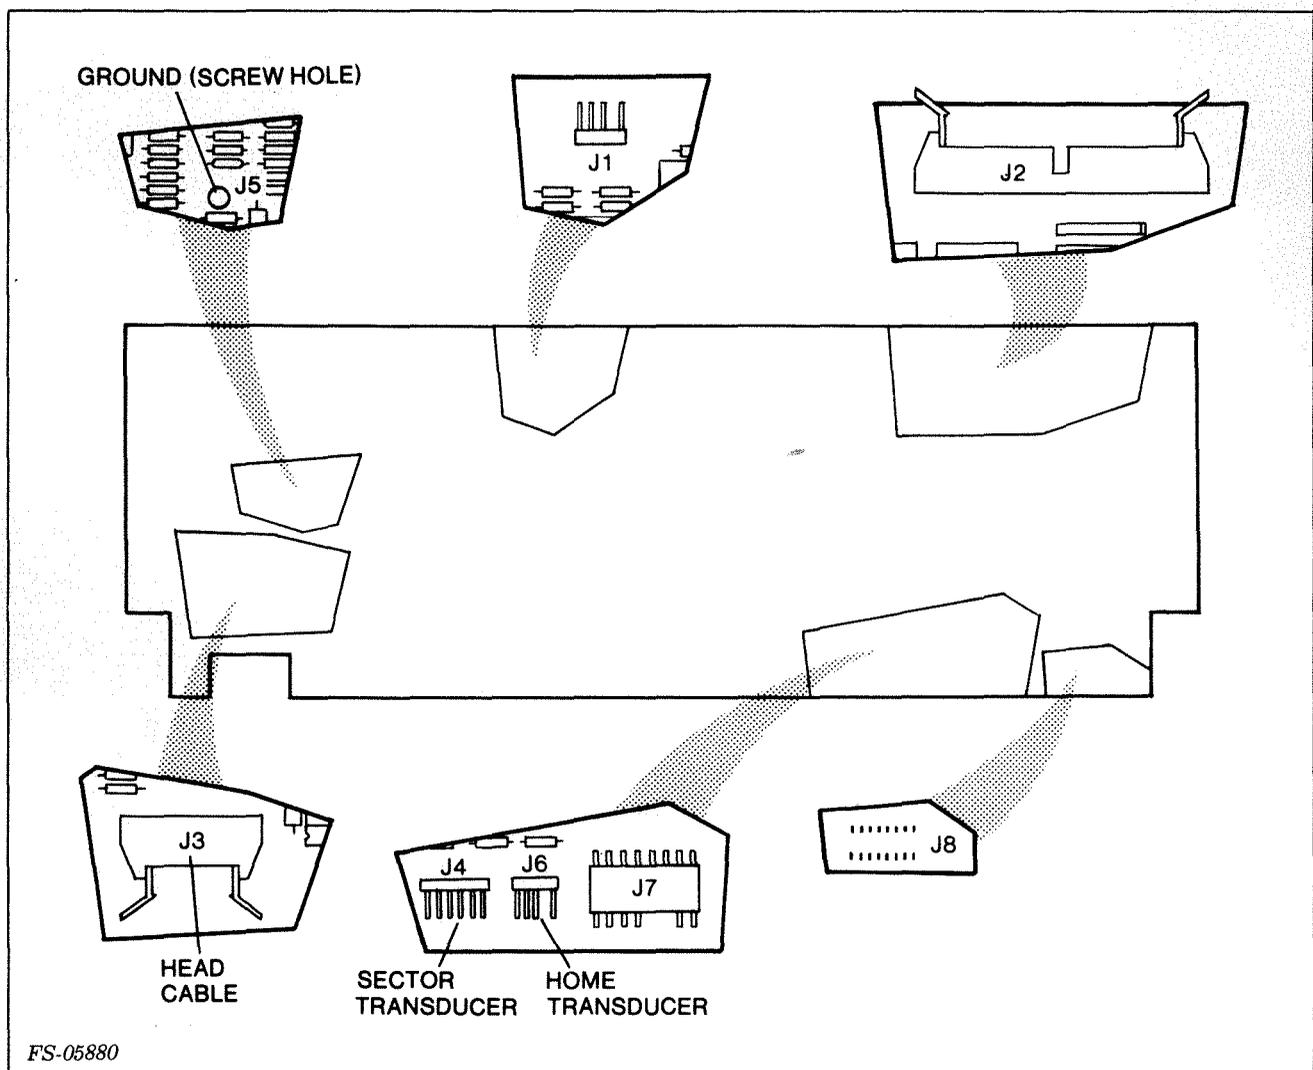

Figure 5-11. Read/Write and Clock PCB Connectors
4. Unplug J3, J4, and J6 from the read/write and clock PCB (see Figure 5-11). Mark J4 for correct position as to which sector transducer is in use.
2. Unplug connector J4 from the read/write and clock PCB (see Figure 5-11). Turn connector J4 180 degrees and replug back into connector J4. Rotating the connector 180 degrees activates the spare sector transducer and deactivates the faulty unit.
2. Unplug the connector at J6 on the read/write and clock PCB (see Figure 5-11).